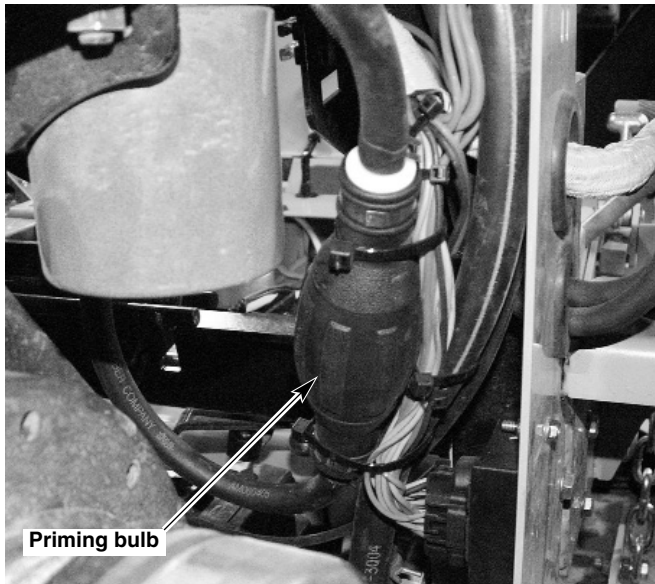

Figure 4-5
3. Take the priming bulb and compress it until it becomes firm. Fig. 4-5